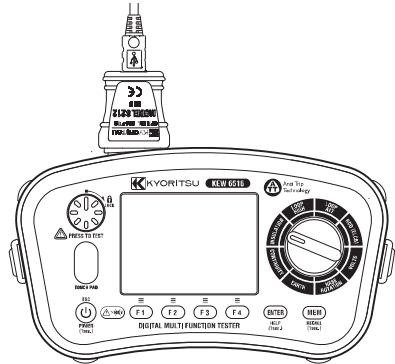

Fig.17-2
- (1) Connect Model 8212USB to the USB Port of a PC. (Special driver for Model 8212USB should be installed. See the instruction manual for Model 8212USB for further details.)
- (2) Insert Model 8212USB into the KEW 6516/6516BT as shown in Fig 17-2. Test leads should be removed from the KEW 6516/ 6516BT at this time.
- (3) Power on the KEW 6516/ 6516BT. (Any function is OK.)
- (4) Start special software "KEW Report" on your PC and set the communication port.